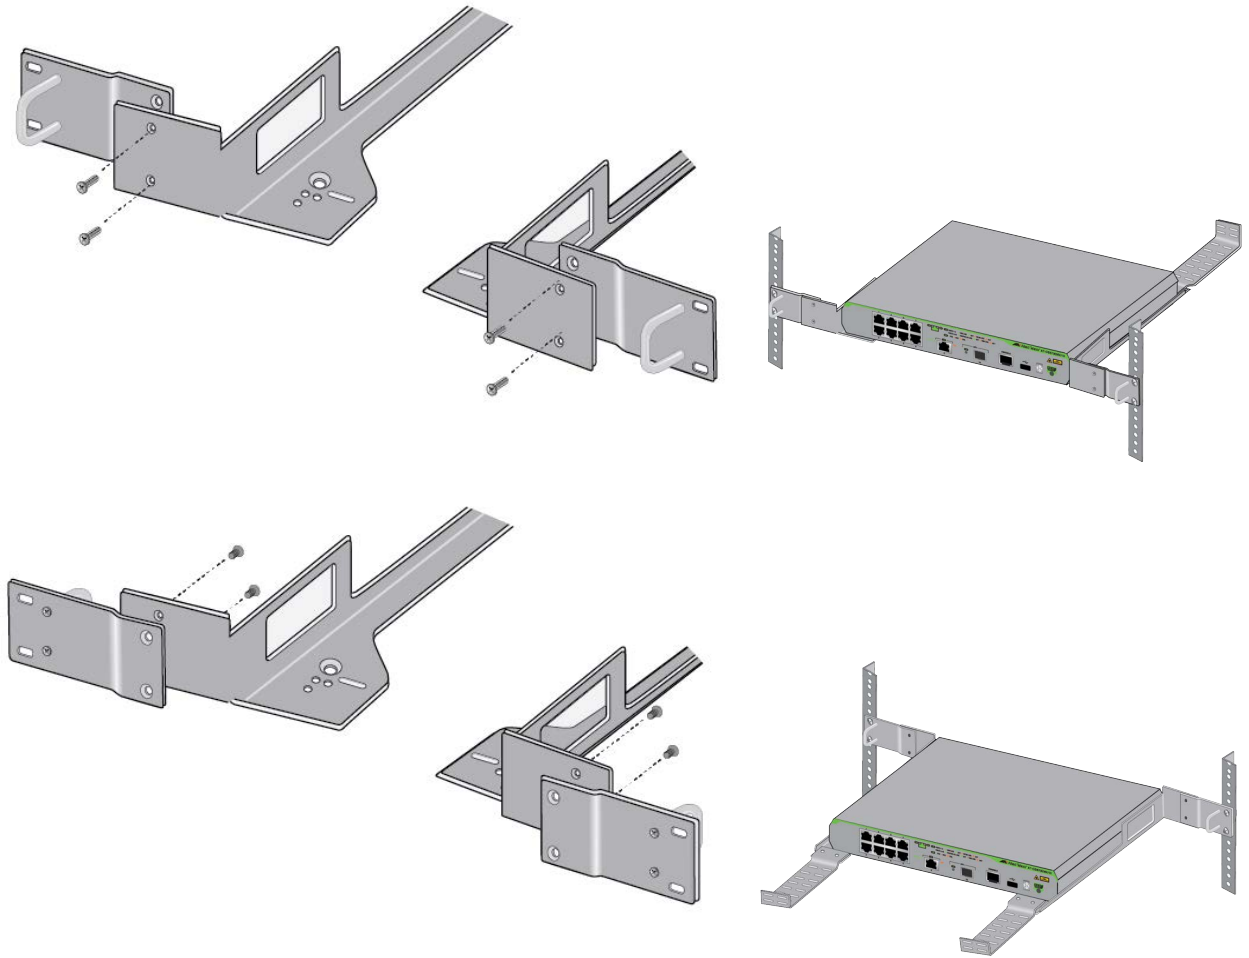

Figure 31. Attaching the Short RKMT-J05 Brackets to the Long Brackets
4. Attach the short brackets to the long brackets using the supplied M4x6mm countersunk screws. Refer to Figure 31.